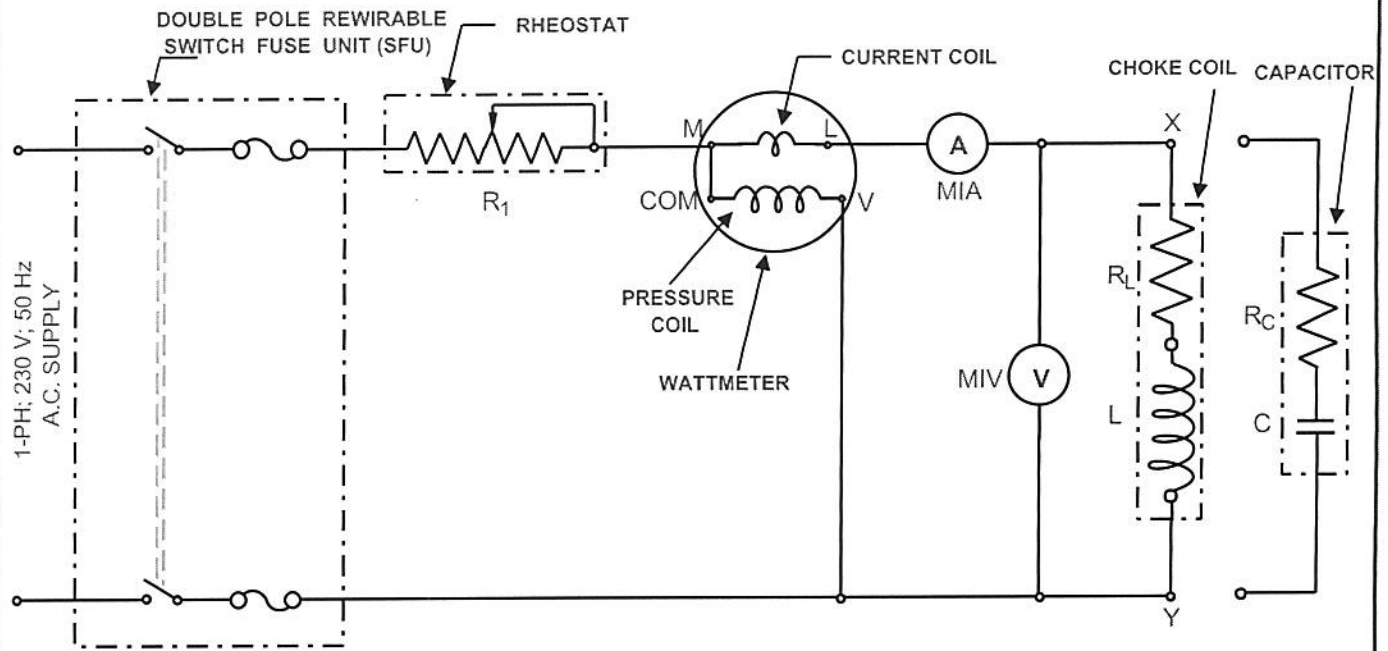

Fig:3.1 Circuit Diagram for Study of R-L Series Circuit
1) Connect the choke coil as shown in the Fig.3.1.
1) Replace the choke coil of Fig.3.1 by a capacitor in between the points. X & Y and repeat the procedure (2) above. Complete the DATA SHEET to be prepared by you as shown in SAMPLE DATA SHEET